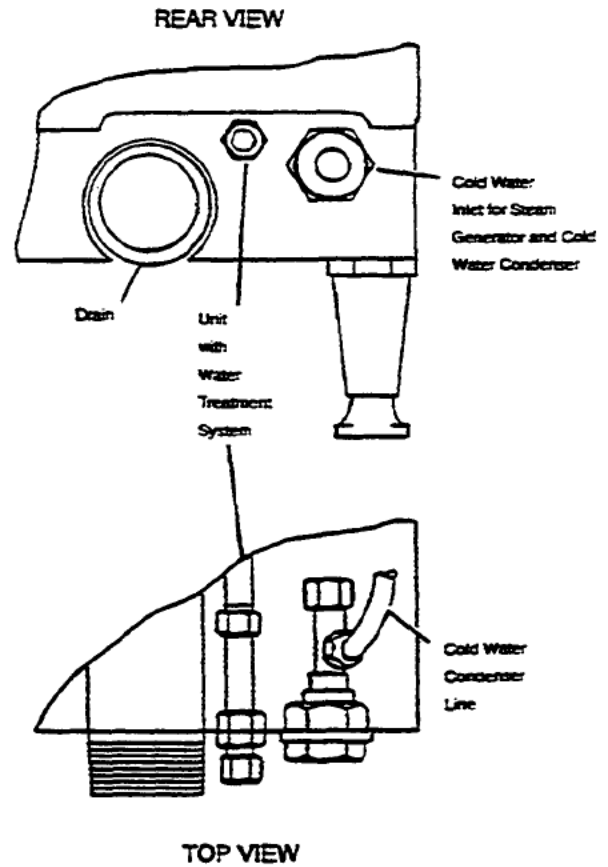

Figure 2-19. Water Connections with Water Treatment System
- If the water supply arrangement includes a water treatment system; refer to figure 2-19, and verify that the cold water condenser feed line is attached to the tee and bulkhead coupling inside the steamer. Verify that the steam generator supply outlet of the tee has been securely capped.
4. Referring to figure 2-19, inspect the SteamCraft V to verify that the treated water supply bulkhead coupling has been properly installed and securely attached to the steam generator feed line inside the steamer.